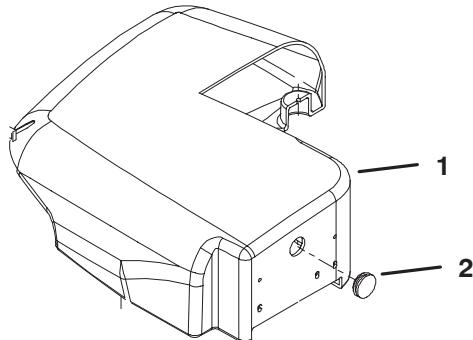

Figure 5
8. Locate and remove the cap plug from the back side of the hydraulic tank cover (Fig. 5).